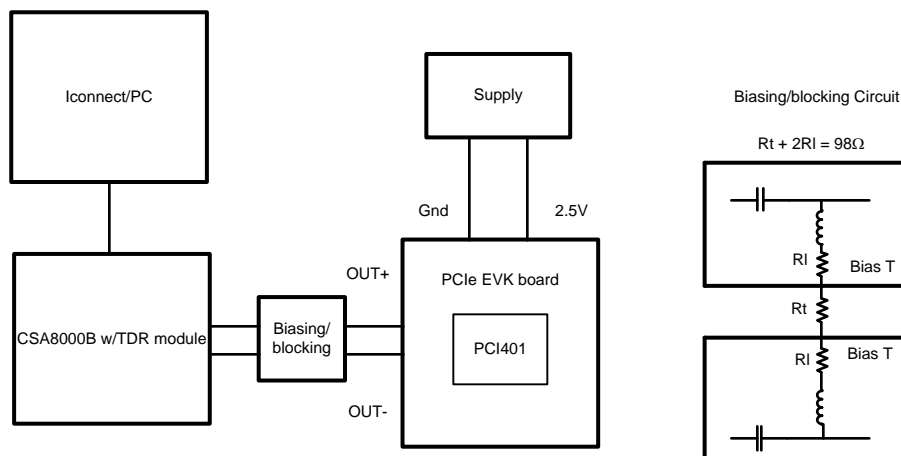

Figure 6. Input and Output Return Loss Setup
- (1) Typical values represent most likely parametric norms at V_{DD} = 2.5V, T_A = 25°C., and at the Recommended Operation Conditions at the time of product characterization and are not guaranteed.
- (2) The Electrical Characteristics tables list guaranteed specifications under the listed Recommended Operating Conditions except as otherwise modified or specified by the Electrical Characteristics Conditions and/or Notes. Typical specifications are estimations only and are not guaranteed.
- (3) Measured with DEM Select pins configured for 1000mV VOD, see De-emphasis table.
- (4) Input edge rate for LVC MOS/FLOAT inputs must be 50ns minimum from 10-90%.
- (5) Input Return Loss also uses the setup shown in Figure 6. The blocking / biasing circuit is replaced with a simple AC coupling capacitor for each input to emulate a typical PCIe application.
- (6) Measured at package pins of receiver. Less than 40mV is IDLE, greater than 175mV is ACTIVE. SD_TH pin connected with resistor to GND overrides this default setting.
- (7) Measured with a repeating K28.5 pattern at a data rate of 2.5 Gbps and 5.0 Gbps.